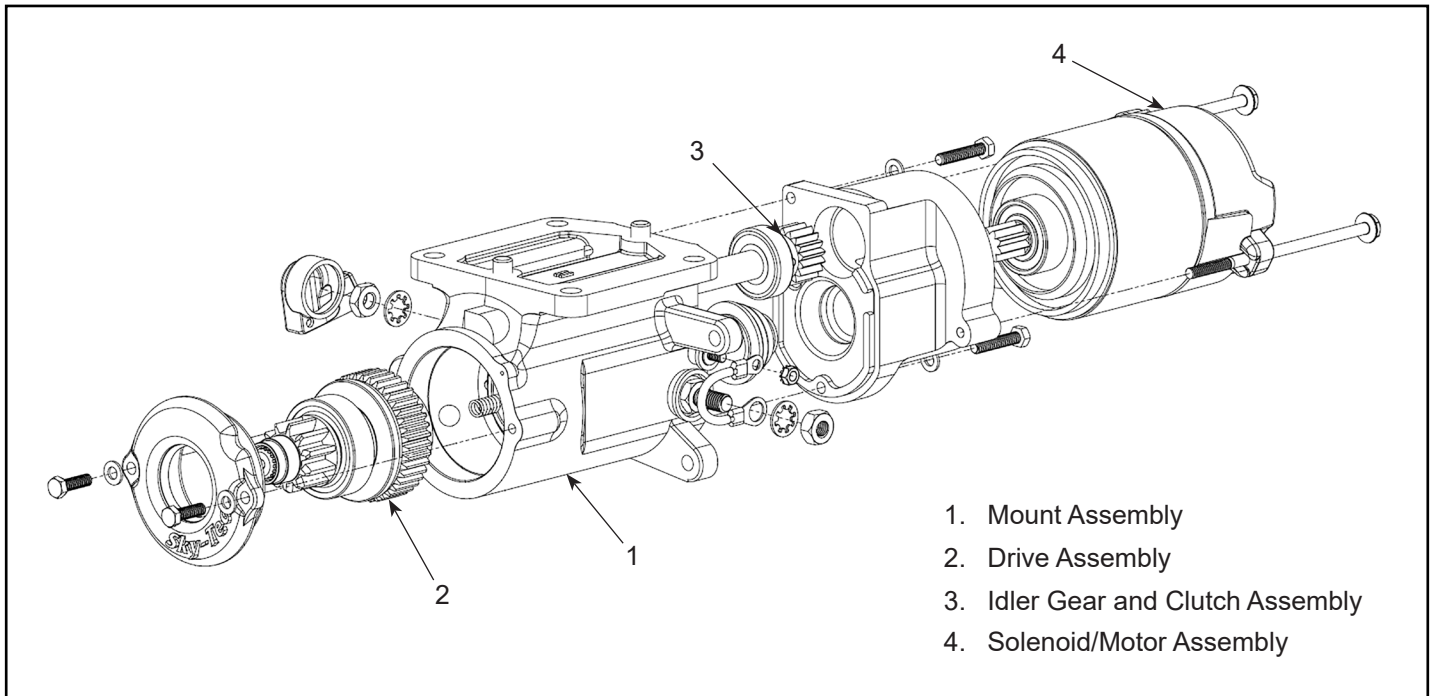

Figure 2.1 – Typical Starter Basic Components, All Models
- A. The principle components of NL, NL/EC, NLR, NLR/EC starters described herein are (1) mount assembly (2), drive assembly (3), idler gear and clutch assembly, and (4) solenoid/motor assembly, see Figure 2.1.